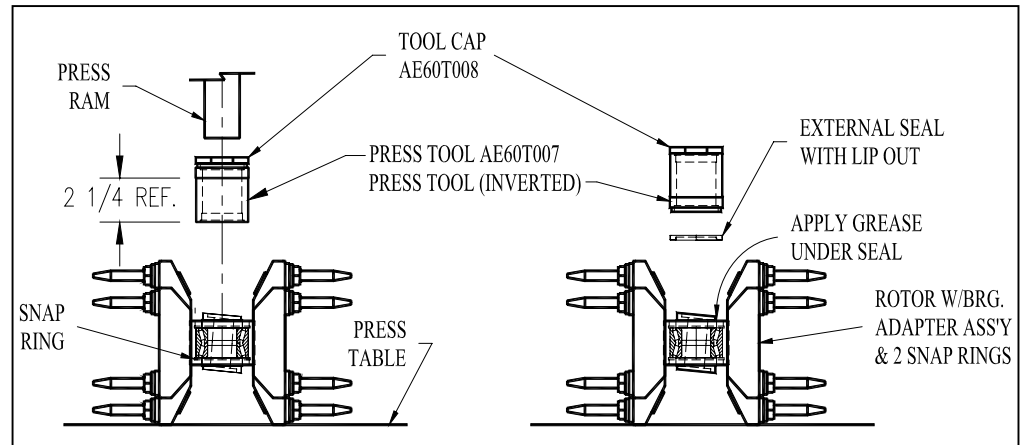

Figure 8. Rotor Assembly
1. With a pry bar remove the external seals (see Figure 8) on both sides. Generally, seals are damaged and are not reused.